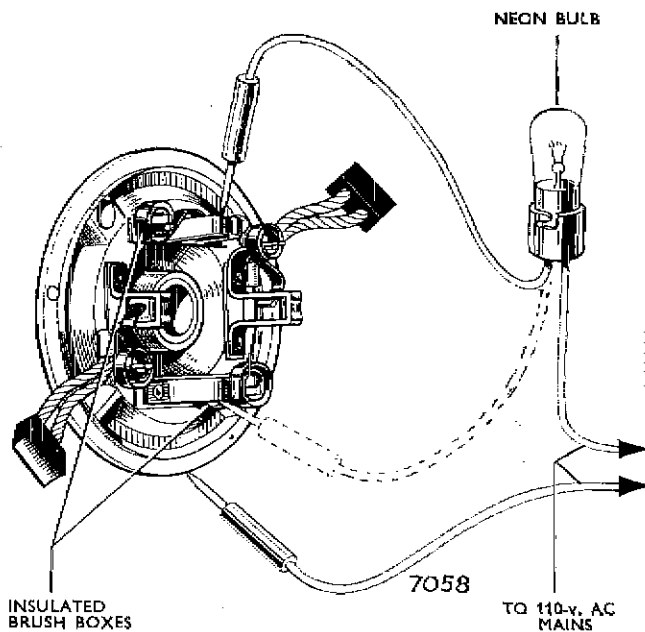

Fig. 19. Brush-box insulation test
2. Again using the 110-v. test lamp, check the soundness of the insulation on the two insulated brush boxes. (See Fig. 19.)